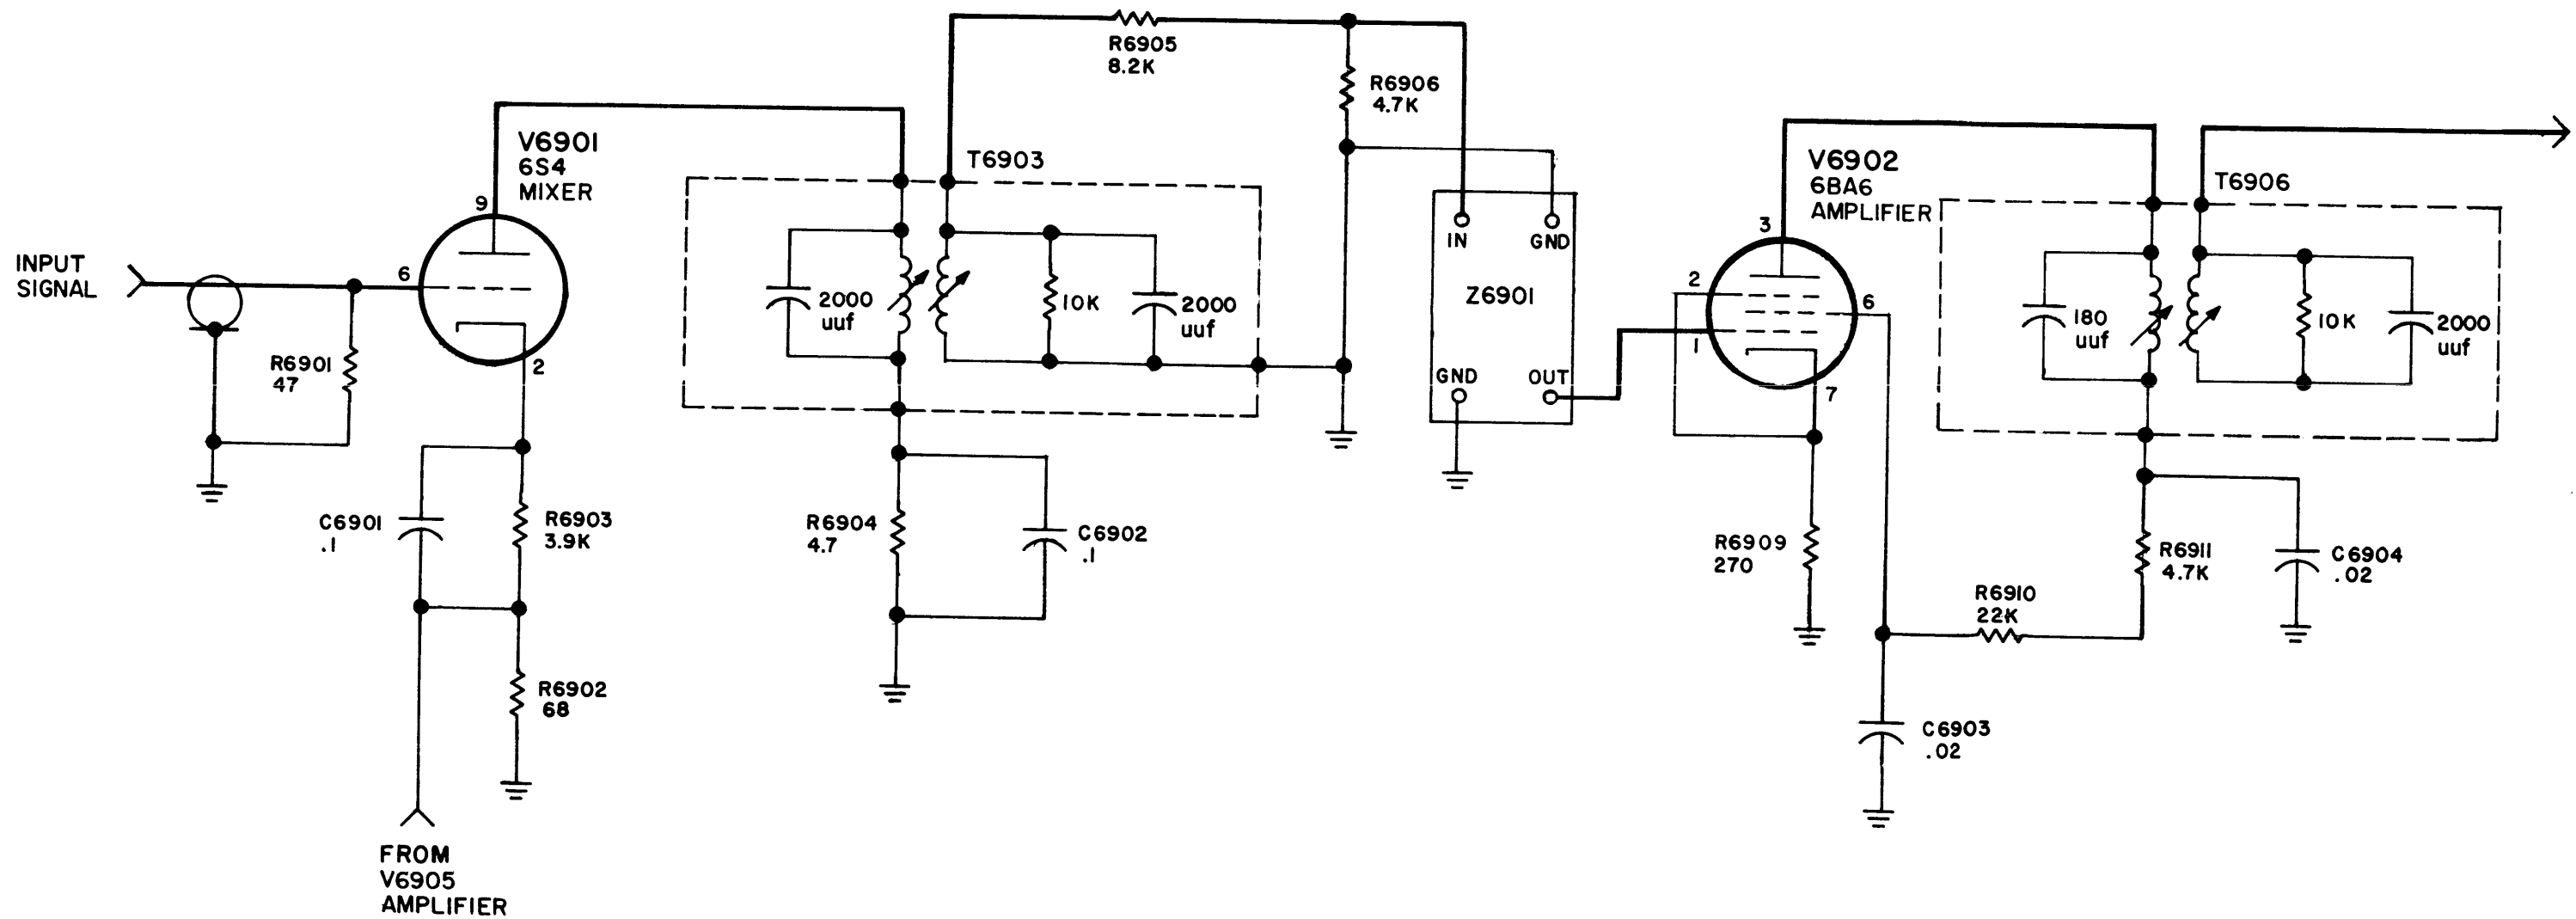

FIGURE 4-5. SIMPLIFIED SCHEMATIC OF MIXER V6901 AND AMPL V6902
a. CIRCUIT ANALYSIS - With NOTCH switch S6901 in the IN position, the 250-kc i-f signal is coupled to the grid (pin 6) of mixer V6901 along with an oscillator frequency between 203.5 and 206.5 kc, which is coupled to the cathode (pin 2). These two signals are heterodyned in V6901, producing both additive and subtractive resultant frequencies. Transformer T4003 is tuned to a frequency band between 453.5-kc and 456.5-kc, the frequency sum of the two signals. See figure 4-5.